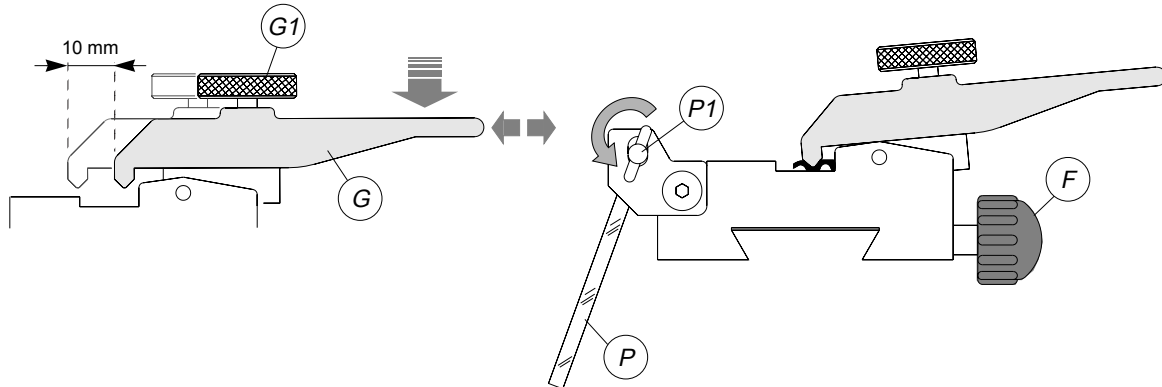
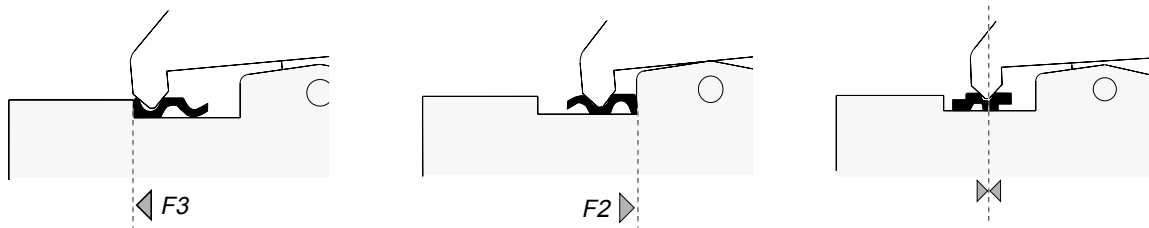

Fig. 13
Fig. 14
Take the clamp to the "tracking" position to facilitate positioning of the key. Ensure that the glass slide diffusor (P) is not in the way by rotating it outwards with knob (P1) (fig. 13).
- 2) select the side of the key to be marked, push the clamp (G) (fig. 13) and place the key with its back on the right-hand (F2) or left-hand (F3) stop, according to the shape of the profile; keys with cuts on both sides must be positioned in the centre and secured with the clamp inside the groove (fig. 14).
- 3) move the clamp (G) into the ideal position for securing the key (inside the groove) and tighten the knob (G1); the clamp (G) can be moved a maximum of 10 mm along the X axis.
- 4) loosen the locking knob (F), move the clamp slide (E) so that the key head is butting against the head stop (F1) and lock the slide with the knob (F).
- 5) to position other keys with the same features, simply adjust the clamp (G).